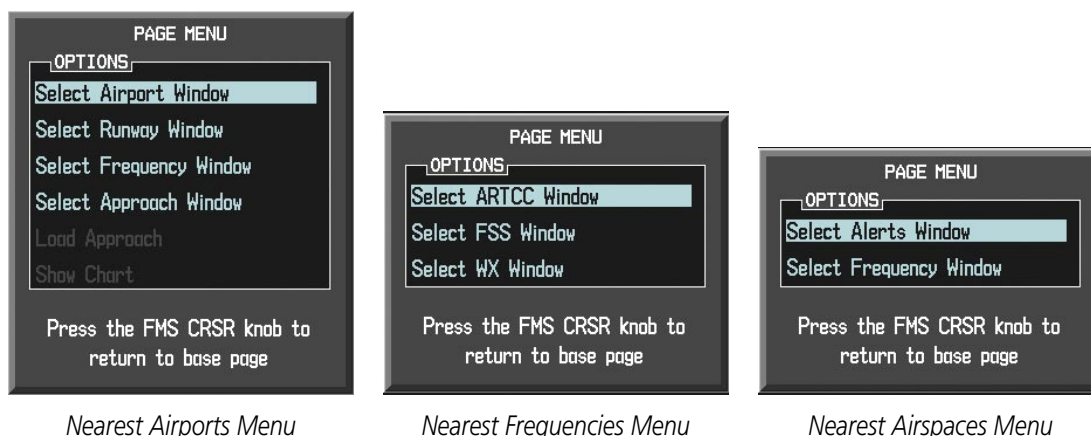

Figure 4-10 Nearest Pages Menus
- 5) Press the **MENU** Key to display the page menu (Figure 4-10).